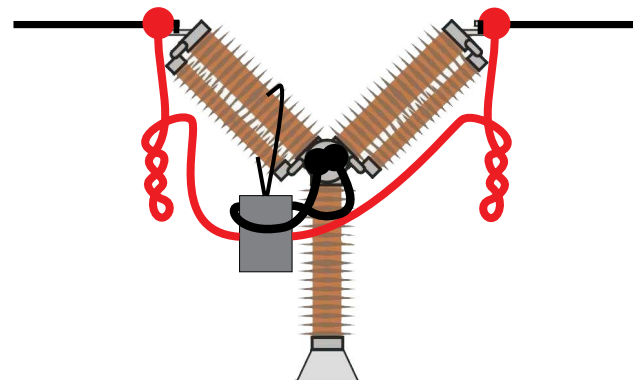

Fig. 8.2.2 By twisting the current cables you can reduce disturbances by minimizing the magnetic window created by the cable loops and the interrupter.
- 4] By twisting the cables as shown in the figure 8.2.2 you can reduce disturbances by minimizing the magnetic window created by the cable loops and the interrupter.